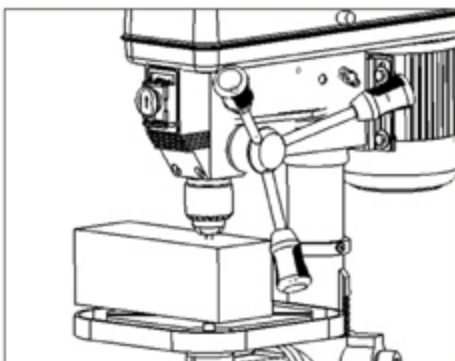

Figure 9
- 7.3. Using a wood mallet, firmly tap the chuck upward into position on the spindle shaft. **See Figure 9**